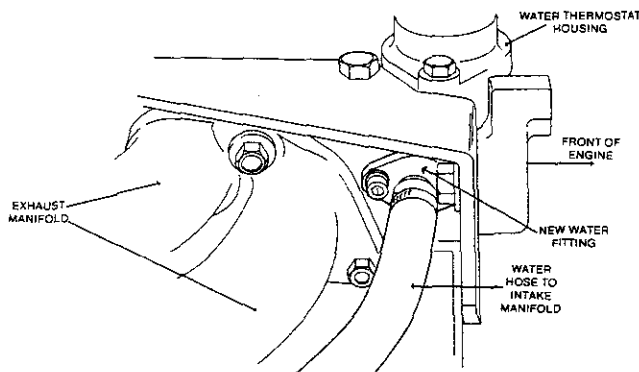

FIG. 5
11. Remove the small water chamber cover and gasket located below the thermostat housing and replace with the water outlet fitting and new gasket supplied in the kit. **Fig. 5**